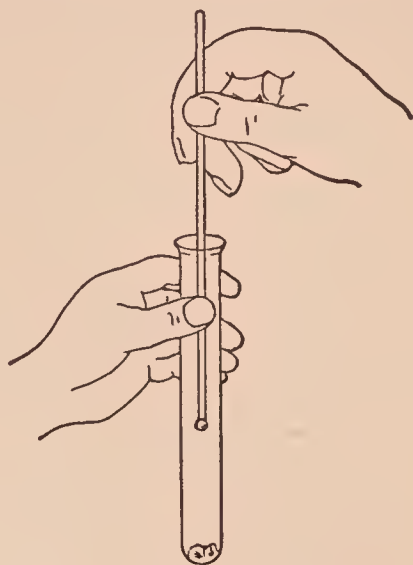

FIG. 71. — Testing for carbon dioxide
(a) **Carbonates.** — (1) Put a little baking powder in a test tube, add a few drops of dilute hydrochloric acid, and test the escaping gas for carbon dioxide with a tube which has been dipped into calcium hydroxide solution (Fig. 71). Note the result.
(2) Put 2 gm. of baking powder in a test tube, add 15 to 20 cc. of water, and shake well. Let the action continue a short time, and then test the solution as in (1). Note the result.
(3) Add sour substances, *e.g.* vinegar, sour milk, lemon juice, separately to a little baking powder, and note the result.